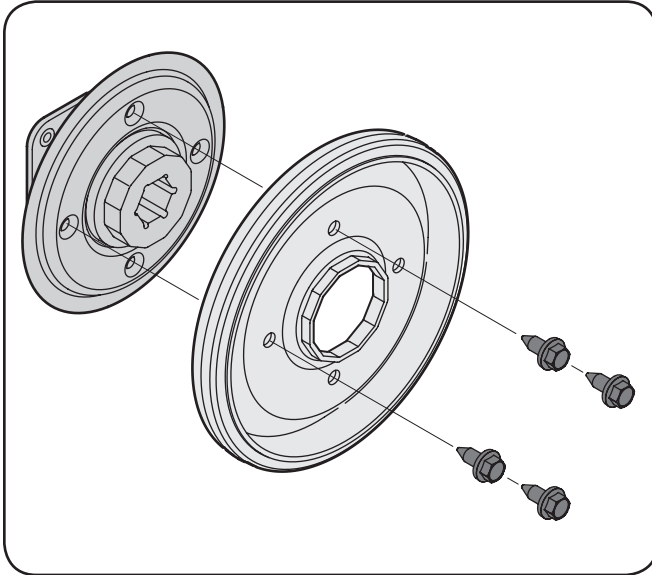

Figure 7-11
7. Remove four screws securing the friction wheel to the hub assembly (refer to Figure 7-11). Discard old friction wheel.
8. Reassemble the new friction wheel onto the hub assembly, tightening the four screws in rotation to 6-9 ft.-lbs. It is important to assemble the friction wheel symmetrically for proper functioning. Refer to Figure 7-11.